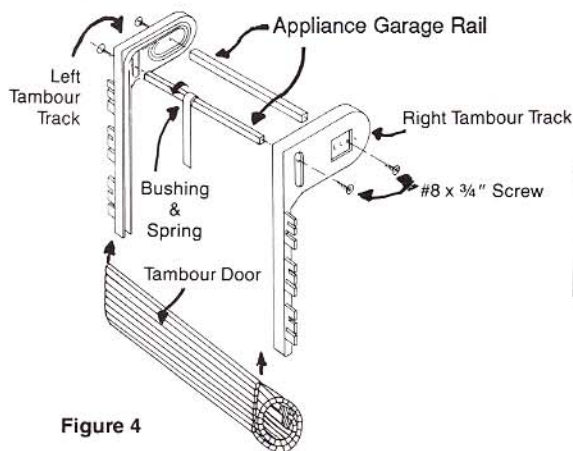

Figure 4
Step #8—Fasten the two (2) plastic tambour tracks to one appliance garage rail with two (2) #8 x 3/4" screws through holes numbered L2 and R2 in plastic tracks. Slide plastic bushing and spring on the other appliance garage rail and install rail to plastic tracks using two (2) #8 x 3/4" screws through hole numbers L5 and R5 in plastic tracks. (Note: Spring must unroll from front side of assembly. Check for proper installation before continuing). (See Figure 4)